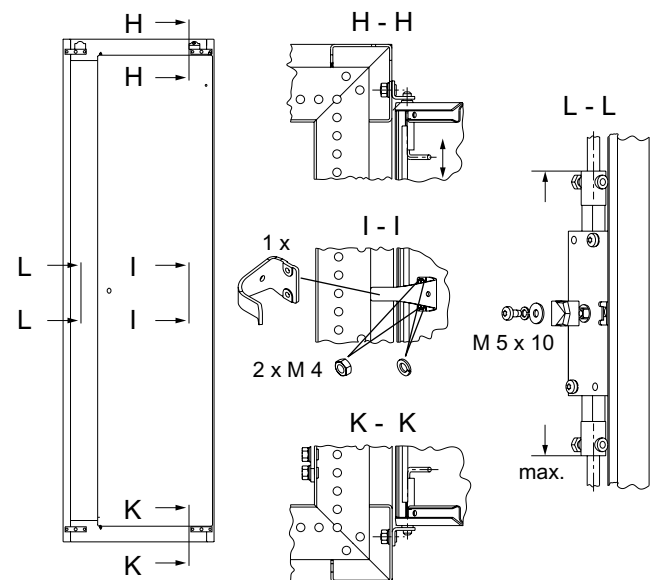

Fig. 10
- When the doors are delivered unmounted, the door angle on the hinge side and the steel bracket mounting on the lock must be taken into consideration. See Sections "L-L" and "I-I" in Figure 10.
- The 4, or respectively 6, door support angles are each mounted to the frame with one M 8x15 threaded bolt and one M 8 nut hat is secured with a contact washer. See Sections "H-H" and "K-K" in Figure 10.